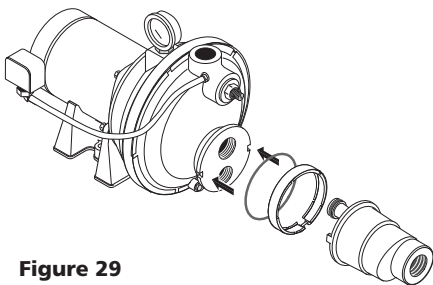

Figure 29
- Place O-rings in grooves on venturi and pump flange (See Figure 29).
- Insert venturi into upper pump port; be sure tabs and slots align (See Figure 29).